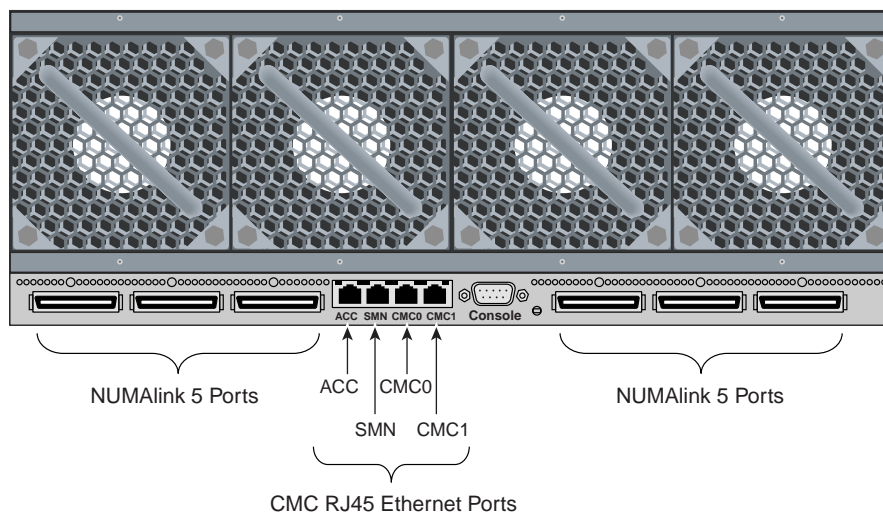

Figure 3-7 Altix UV 100 IRU Rear Components Example
- **CMC and external NUMalink Connectors.** The CMC and external NUMalink connectors are located on the rear of each IRU below the unit's fans (see Figure 3-7).